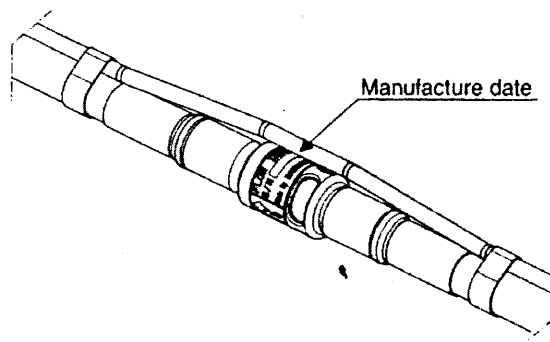

FIGURE 1
(2) Procedure:
- (a) If the Flight Crew Mask that you have, has a Supply Hose and Radio Cord Assembly equipped with an in-line flow indicator, check the manufacture date on the identification label (refer to Figure 1).